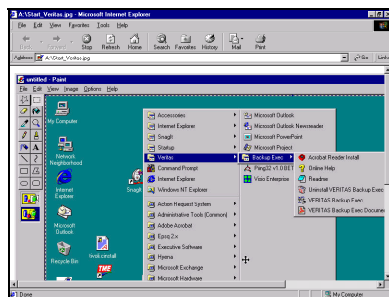

FIGURE XI.1
- 1) From the desktop double click on the "Veritas Backup Exec" icon, or use Start, Programs, Veritas, Backup Exec and Veritas Backup Exec and left-click once. (see figure XI.1)